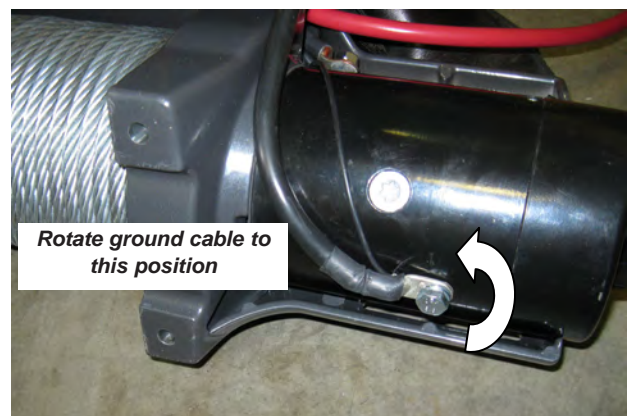

Figure 20
NOTE: The motor ground cable may need to be rotated at the motor to avoid interfering with the frame bracket bolts. Figure 20. Use the hardware supplied with the winch. Tighten to the torque specification supplied with the winch.
19. Remove the factory fog lamps from the factory bumper by removing the 4 Phillips screws around each lamp. Figure 20.